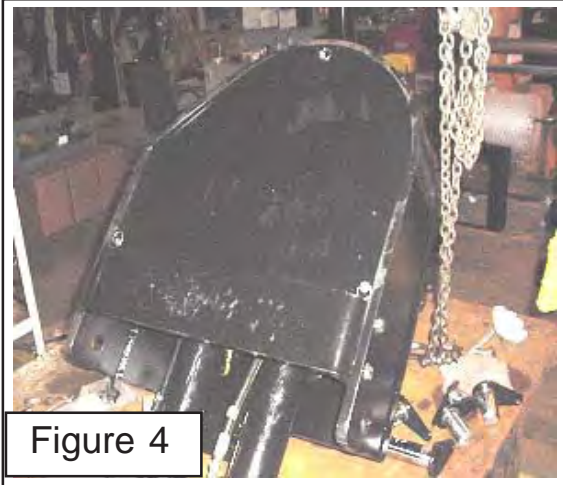

Figure 4
3. The Boom Turret mount weldment can be removed from the tractor by removing the mounting pins or it can be left connect to the under frame, it will be the repair technicians decision. If under mount is removed the swing cylinder hoses will required disconnecting and plugging. Here it is shown with the assembly removed and sitting on the bench (See Figure 4). The bottom cover will need to be removed, this will allow access to the cylinder rods where the connect to the turret. Remove the cotter pins and washers from the cylinder rod connections (See Figure 5 & 6). With the cotter pins and washers removed the cylinder rods should not fall from the pins, they will hang on the pins until later when turret is lifted up.